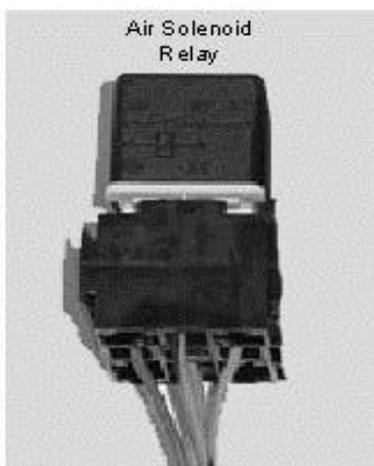

FIGURE 6.4 Air Pump Relay
- 2. AIR RELAY (not equipped on all models)** - The PCM controls the operation of the AIR system through the AIR pump solenoid relay. When the PCM provides a ground circuit for the secondary AIR pump solenoid relay, battery voltage is allowed to power up the AIR pump and the solenoid. **See Figure 6.4**